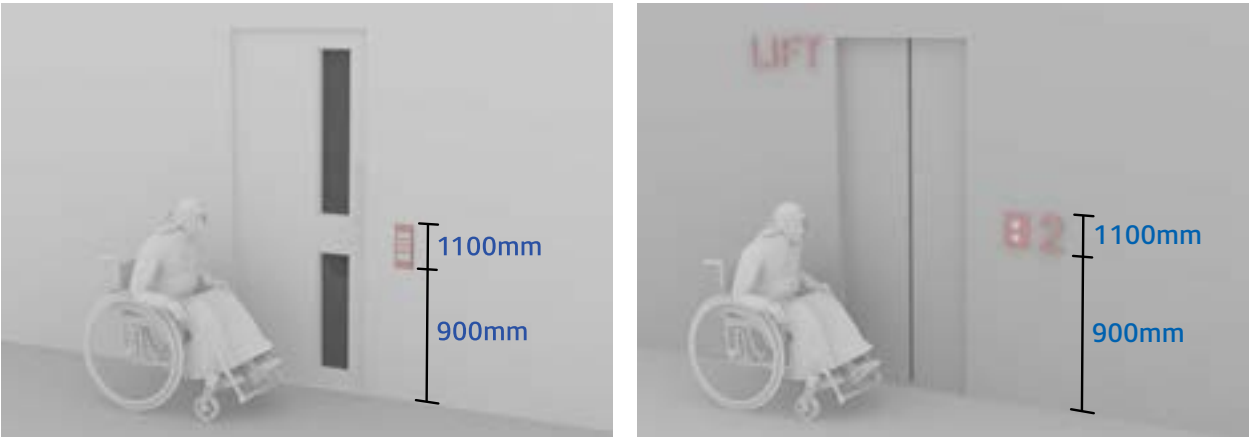

Figure 53 / Heights of switches and controls (door access controls and lift call buttons)
3. The positioning of switches and controls falls within the ranges shown in Figure 53 and is consistent within the building.